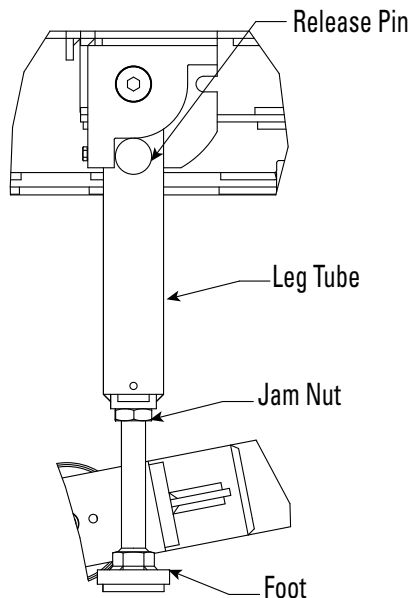

Figure 15
2. Pull the spring-loaded release pin on the stabilizing leg to allow the stabilizing legs to lower and lock in the vertical position (see Figure 15).
3. Unscrew each foot to lower the foot until the foot makes full contact with the floor (see Figure 15).
4. Tighten the jam nut against the bottom of each Leg Tube to lock each Leg height (see Figure 15).